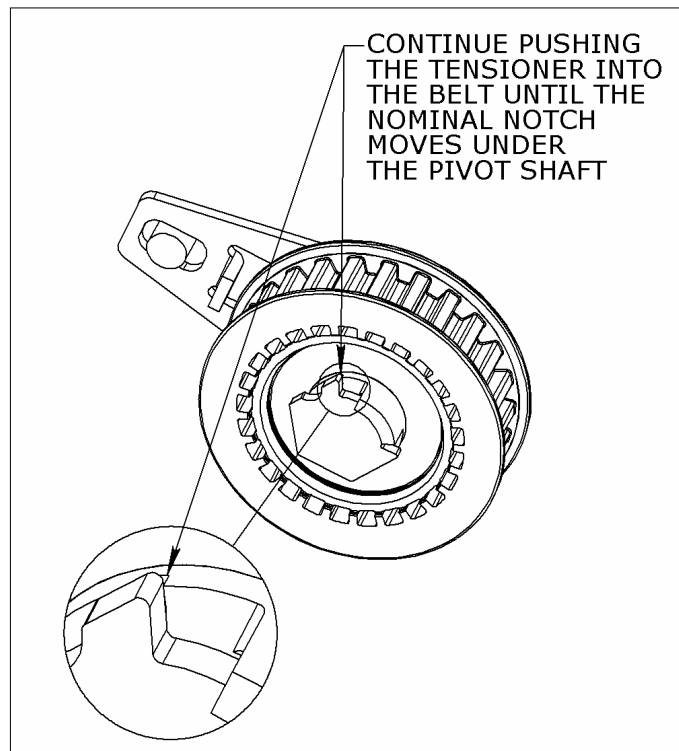

Figure 5: Initial tensioner setup for belt seating
8. Continue pushing the tensioner base plate until the nominal notch on the arm moves under the pivot shaft. Torque the M6 Mounting Nut to **14~18 Nm** (Figure 5), while holding the base plate tab in this nominal position.